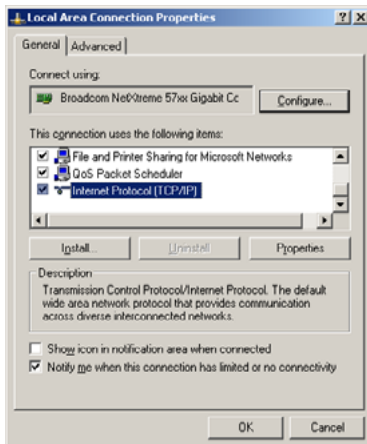

Figure 1-4. Local Area Connection Properties
4. In the Local Area Connection Properties dialog box, under the section titled “This connection uses the following items:”, select “Internet Protocol (TCP/IP)”, and then click the Properties button (below the list of connections). Refer to Figure 1-4.